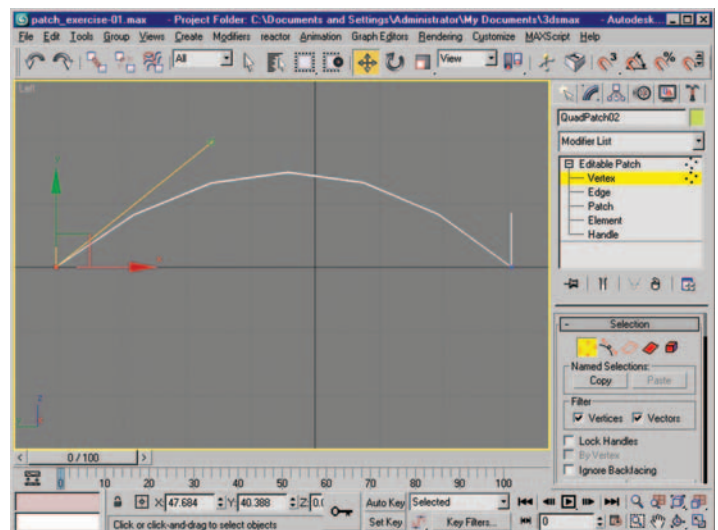

Figure 2.25 Bezier handles adjusted to create the object's side profile.
4. In the left viewport create a soft arcing shape at both ends by selecting Vertex (under Editable Patch in the modifier stack), then clicking the vertex and the appropriate Bezier handle, and then adjusting to the desired shape. Figure 2.25 shows handles manipulated to create the side profile.